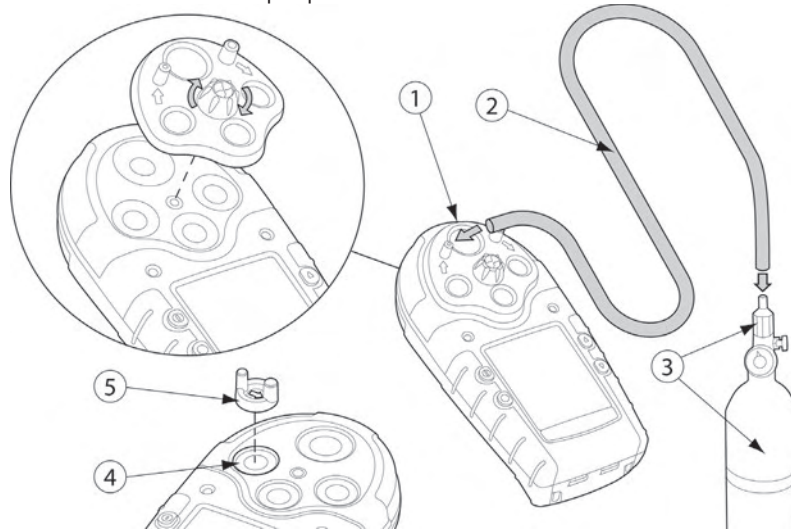

Figure 3. Applying Gas to the Sensors
The calibration cap, single gas calibration cap, and hose are shipped with the detector. Refer to Figure 3 and Table 10 for installation.
If an O₃ or ClO₂ sensor is located in the Toxic 2 position (refer to Figure 3 and Table 10), a single gas calibration cap must be used to ensure accurate calibration.
1. Insert the cap into the Toxic 2 sensor position on the detector (refer to Figure 3). Press firmly until the release tabs click.
- 5a. Attach the calibration cap (or single gas calibration cap for O₃ and ClO₂) and apply gas to the sensor(s). To attach caps, refer to Figure 3.